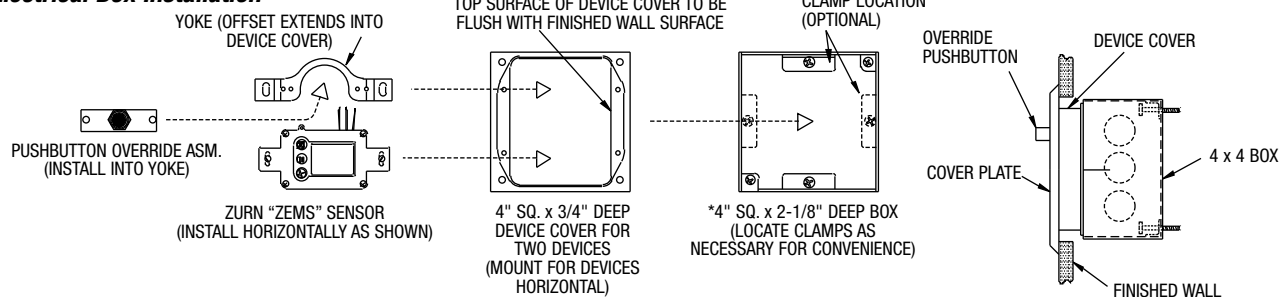

Figure 2
STEP 7 – Mount Automatic Sensor (Figure 2)